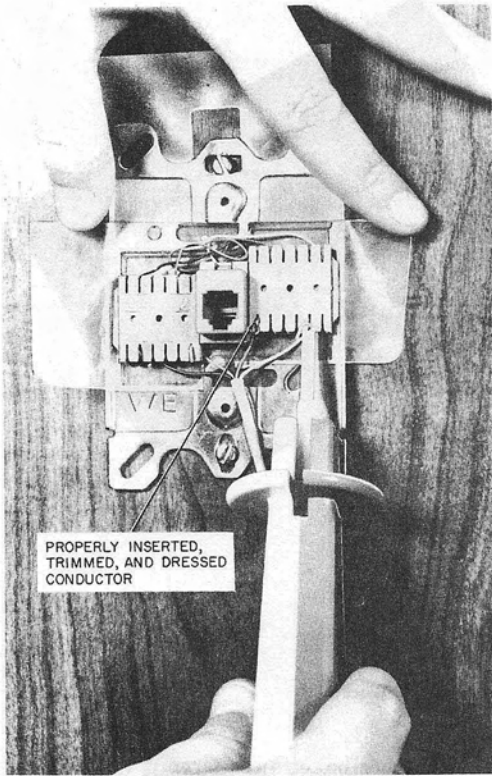

Fig. 9—Terminating Wire With Lead Insertion Tool in 630A4 Connecting Block
2.12 The 797A or 8762D-630 insertion tool head is used for terminating conductors on the 630A4 connecting block. The 8762D insertion tool is adaptable to either the 714B tool handle or the AT-8762 D impact tool; the 797A tool is used with the 714B tool handle *only*. The construction of the blade tips is the same except the 8762D-630 is made of steel instead of plastic. Termination will be the same as shown in Fig. 9.
Note: 630A4 connecting blocks manufactured after March 1977 will be received from the factory with a plastic protective wrapper folded around the quick-connect terminals. To connect station wire, fold out the front and side flaps, make connections and dress leads (Fig. 9), then refold wrapper across terminals. This
- (1) Leave station wire conductors unstripped.
- (2) Dress the conductors so they will not be pinched or cross over each other.
- (3) Use the lead insertion tool to seat conductors in bottom of slots (Fig. 9). Do not twist or rock insertion tool and allow sufficient slack. Do not insert more than one conductor in each slot. Trim the terminated leads approximately 1/4 of an inch from the connecting surface and